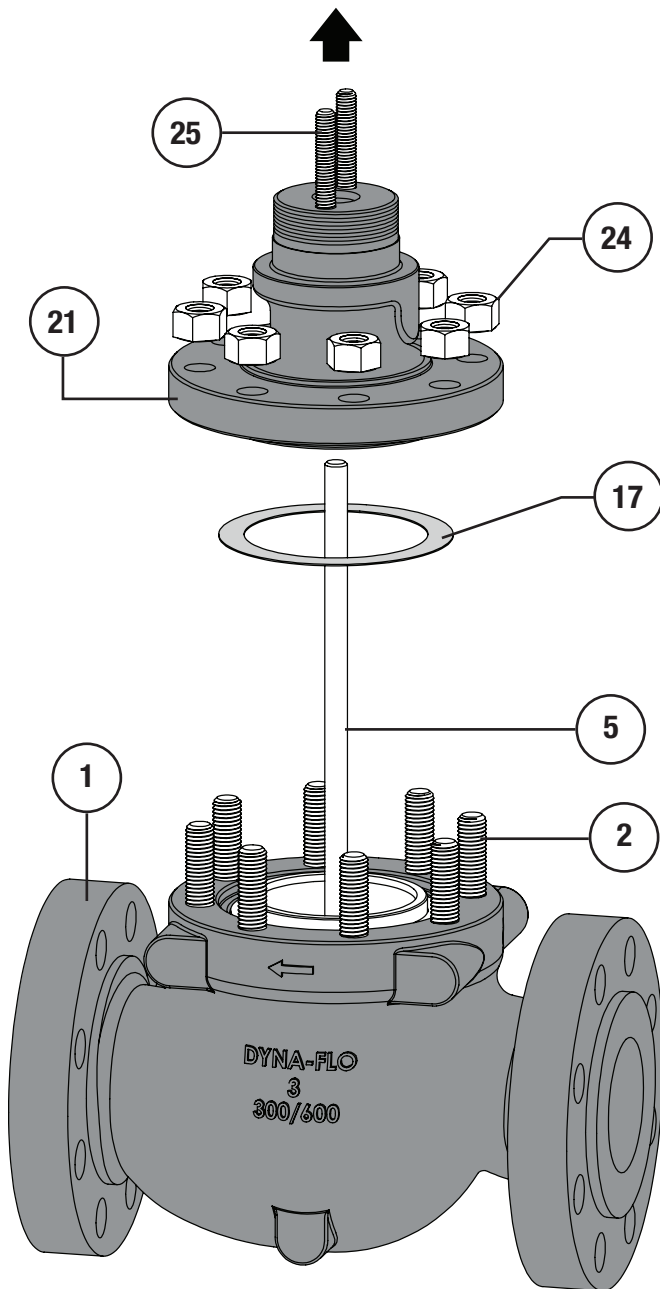

Figure 9 Bonnet Removal (Steps 3 & 4)
- 3 If no process fluid or gas escapes from the body-to-bonnet joint, proceed by completely removing the bonnet nuts (Key 24). Refer to Figure 9.